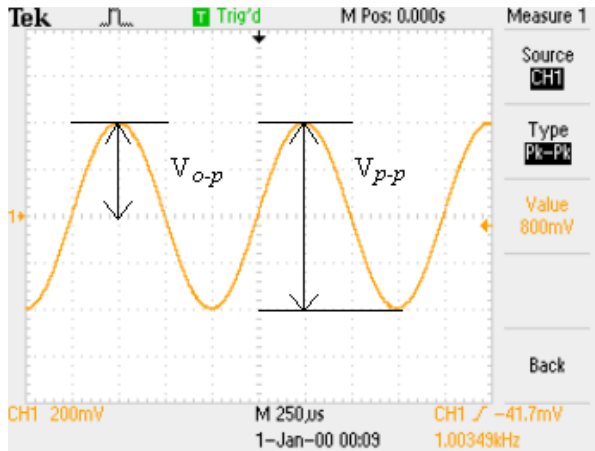

Figure 10: Magnitude Measurements
7. Adjust the amplitude on the function generator such that the peak-to-peak voltage of the sinusoidal signal takes up exactly 4 divisions on the display. This is our desired $0.8 V_{p,p}$ (from $4 \text{ div} * 200 \text{ mV/div} = 0.8 V_{p,p}$). You should have something that looks like Figure 10.
To display an automatic measurement, simply push the *Measure* button followed by one of the measurement options in the side menu. This should give you the side menu as in Figure 10. Make sure the Source is set to *CH1* and the *Type* is set to *Pk-Pk*. Push the *Measure* button once more and you will then see the real-time value of your signal to be 800 mV. Changing the amplitude on the function generator will automatically change the measurement on the scope. Note that you can choose any number of measurement types by scrolling through the *Type* option. Now you can answer the following question.
Just as a trigger on a gun sets into motion a seemingly instant *reaction*, a trigger on an oscilloscope sets into motion a seemingly instant capture. Triggering determines what voltage level on the signal the oscilloscope will "lock on to." It is used to synchronize the signal so it doesn't "move around" on the display. The actual voltage level that is being used to trigger can be seen as an arrow marker on the right hand side of the signal frame. You may have already noticed this in Figs. 10, 11. That arrow, which indicates the triggering voltage level, can easily be adjusted up or down by the *Trigger Level* control knob.